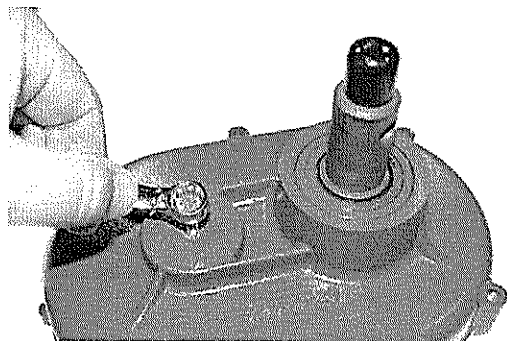

FIGURE 16
5. Using Phillips screwdriver, remove screw, lock washer and flat washer from outside of transmission case and set aside. FIGURE 16
6. Insert a 1/4-20 UNC cap screw with a minimum 1 inch (25.4 mm) into location where screw was removed. Using wrench, turn capscrew in clockwise direction to apply thrust against pinion bearing journal until it clears pinion gear support bearing. Repeat process with transmission cover if necessary. FIGURE 16